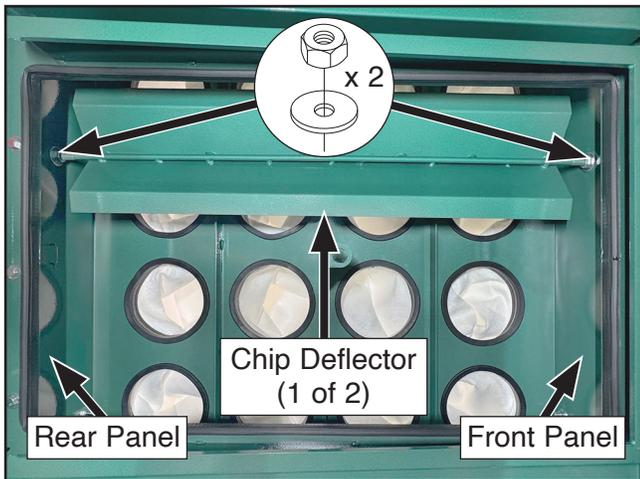

Figure 42. Left chip deflector installed (shown from underneath machine body facing upward).
29. Slide chip deflector rod into holes in front and rear panels of machine body, then adjust hex nuts against machine body until snug, as shown in **Figure 42**.